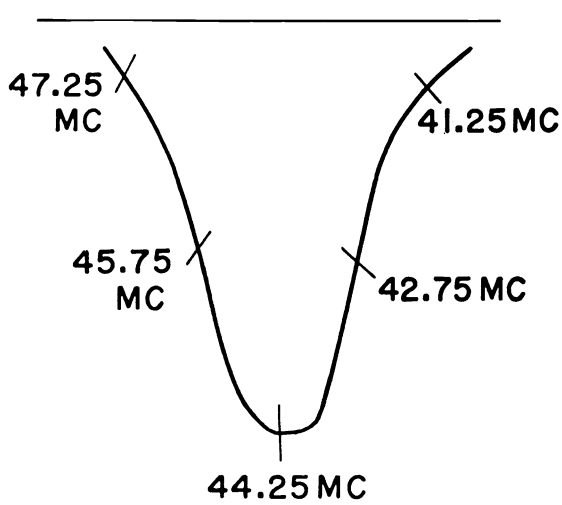

Figure 3
10. In the manner specified in step 8, adjust TIF-379 (Top & Bottom) to obtain a waveform on the oscilloscope equivalent to the pattern in Figure 3.